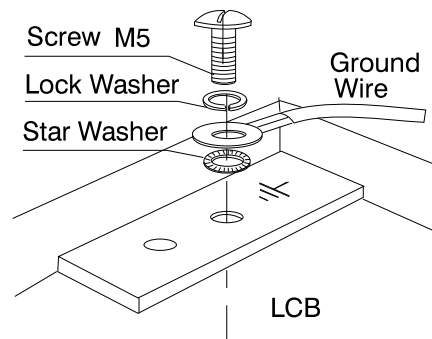

Figure 7-12. Standard Grounding Connection
- 5 mm diameter screw, length from 6 mm to 10 mm (see Figure 7-12).